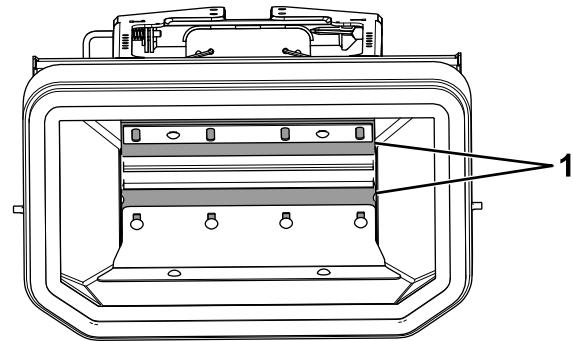

Figure 30
3. Loosen the bolts securing the rubber flaps and slide them down until at least 32 mm (1-1/4 inches) of the flap sticks out past the metal plate (Figure 30).